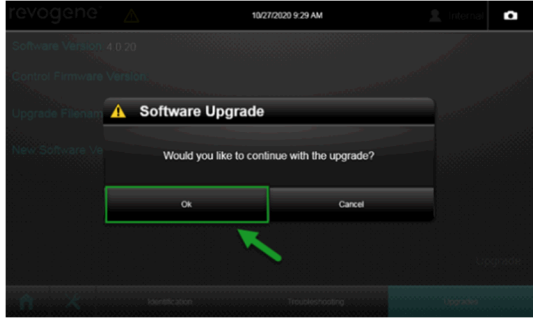

Figure 6. Upgrade Confirmation
9. A window will appear. Tap **<OK>**. (Figure 6)